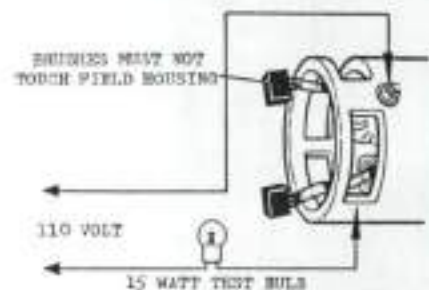

Fig. 141—Brushes must not touch housing and insulation at terminals must be good when checking field coils. Refer to paragraph 183.
183. FIELD COIL TEST. Field coil insulation may be tested using a 110 volt, 15 watt, AC current test light connected as shown in Fig. 141. Brushes must not touch field housing and power terminal insulation must not allow voltage to short to housing. If test light comes on and brushes are not touching housing and insulation is good at power terminal, there is a short between field coils (20—Fig. 139) and field housing (18). Repair or renew as necessary.